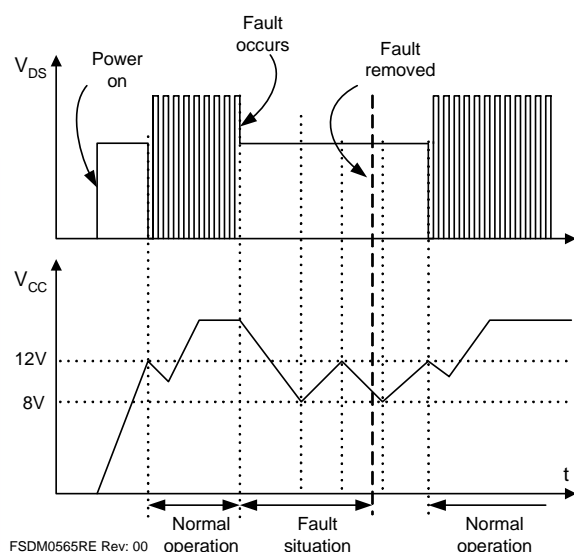

Figure 19. Auto Restart Operation
**3. Protection Circuit:** The FSDM0x65RE has several self-protective functions, such as overload protection (OLP), over-voltage protection (OVP), and thermal shutdown (TSD). Because these protection circuits are fully integrated into the IC without external components, the reliability is improved without increasing cost. Once a fault condition occurs, switching is terminated and the SenseFET remains off, which causes  $V_{CC}$  to fall. When  $V_{CC}$  reaches the UVLO stop voltage of 8V, the protection is reset and the internal high-voltage current source charges the  $V_{CC}$  capacitor via the  $V_{str}$  pin. When  $V_{CC}$  reaches the UVLO start voltage of 12V, the FSDM0x65RE resumes normal operation. In this manner, the auto-restart can alternately enable and disable the switching of the power SenseFET until the fault condition is eliminated (see Figure 19).